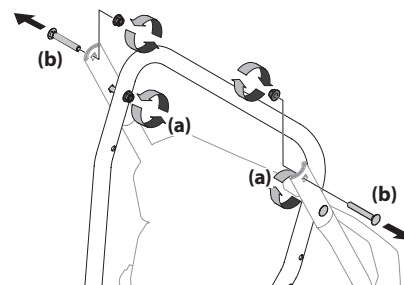
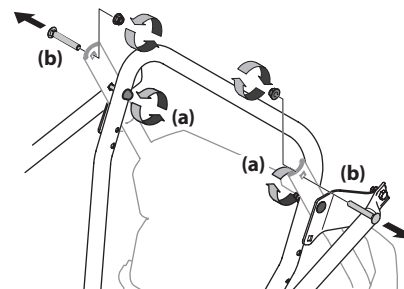

Figure 2-1
Figure 2-2
NOTE: This Operator's Manual covers several models. Features may vary by model. Not all features in this manual are applicable to all models and the model depicted may differ from yours. Refer to Figure 2-1 which shows the different versions and match the contents of carton (chute and directional control rod/flex shaft) to identify your specific unit.
2. Loosen the top two nuts (a) securing the upper and lower handle and remove the two carriage screws (b) from the upper handle and set aside as shown in Figure 2-1 or Figure 2-2 for units with side supports.